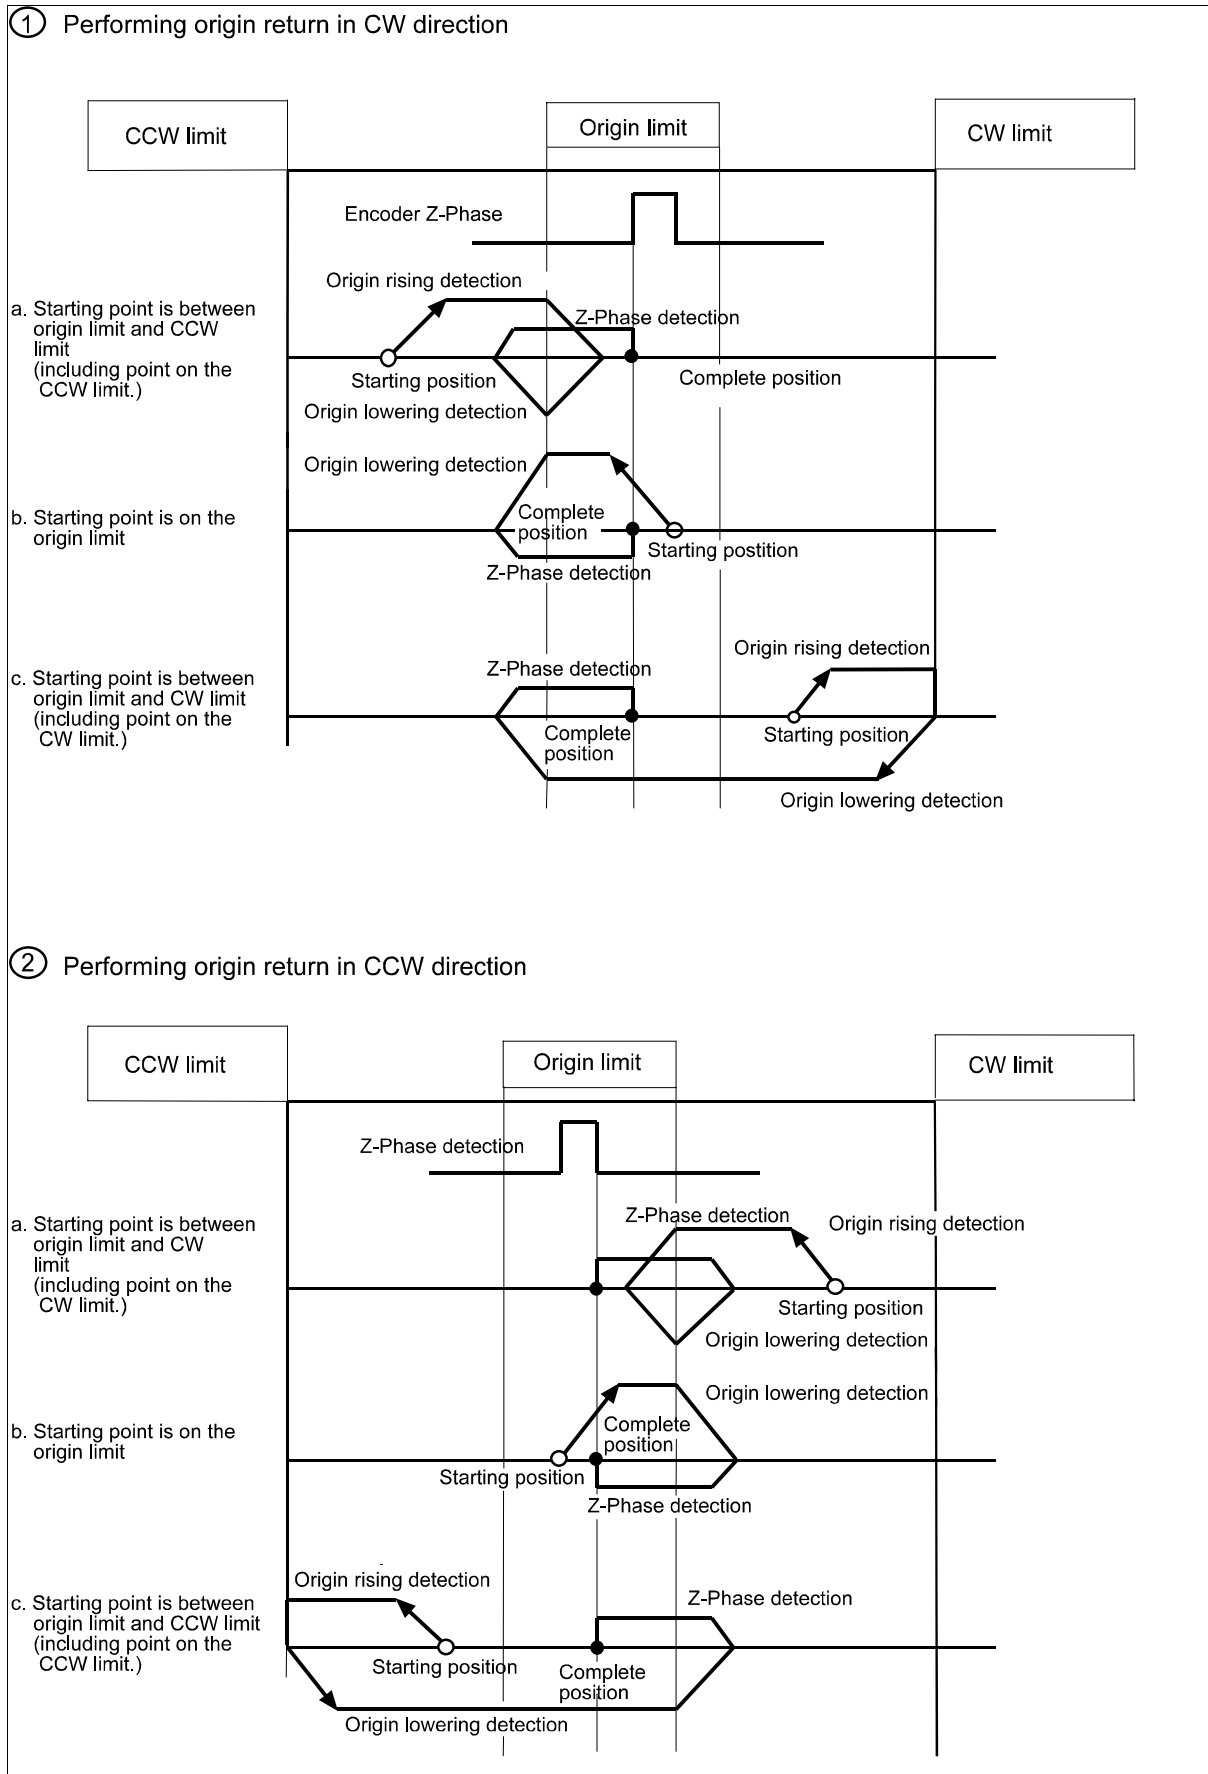

Fig. 9-3 Origin return action specification
- (1) Action specification of the origin return is shown in Fig. 9.3 Origin returning specification.
- (2) If the error limit signal is entered during execution of the origin return command, Origin return error (51) occurs, and the protective function is activated to stop the motor.
- (3) Origin offset can be set by a parameter. For details, refer to section 9.8.1 "Origin return offset function".
- (4) Wire so as the origin vicinity input is connected to COM-, 180 degrees before Z-phase.
- (5) If the origin returning is executed at very close position to the origin return sensor, the motor may rotate max. 1 revolution when detecting the start-down of the origin sensor(the last transition of the origin sensor).